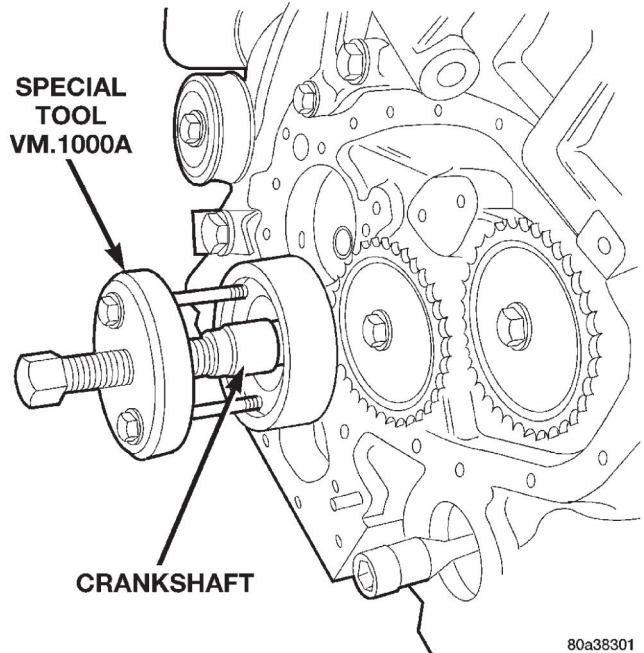

Fig. 48 Crankshaft Sprocket—Removal
(1) Remove vibration damper. Refer to procedure in this section.
(2) Remove timing chain cover. Refer to procedures in this section.
(3) Remove oil pump drive gear on crankshaft.
(4) Remove oil pump.
(5) Remove timing chain. Refer to procedure in this section.
(6) Remove vacuum pump.
(7) Install crankshaft sprocket remover VM.1000A and remove sprocket (Fig. 48).